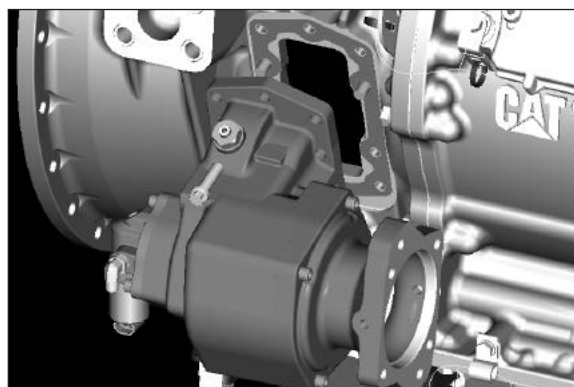

Fig. 32
5. Position the PTO and secure it with the top capscrew provided (**Fig. 32**).